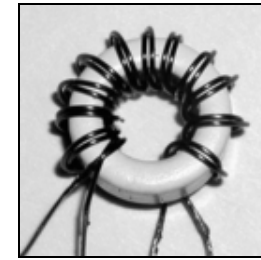
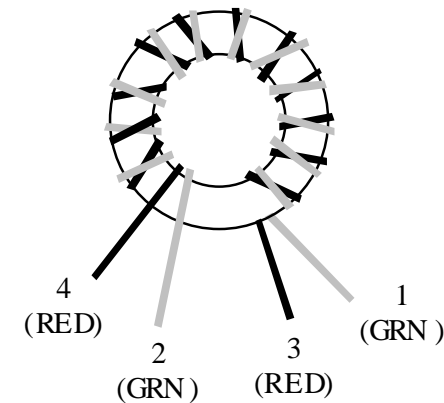

Figure 22
Figure 23
- Wind 12 turns of the twisted wires onto the large ferrite core (FT50-43). The turns should cover about 80-90% of the core, as shown in Figure 22 and Figure 23.
- Separate T4's leads as shown in Figure 23. The numbers on the leads correspond to numbered pads on T4's PC board outline.
Install T4 vertically on the PC board as indicated by its outline near the small notch (back edge). Insert the red and green leads into their numbered holes as shown in Figure 23.